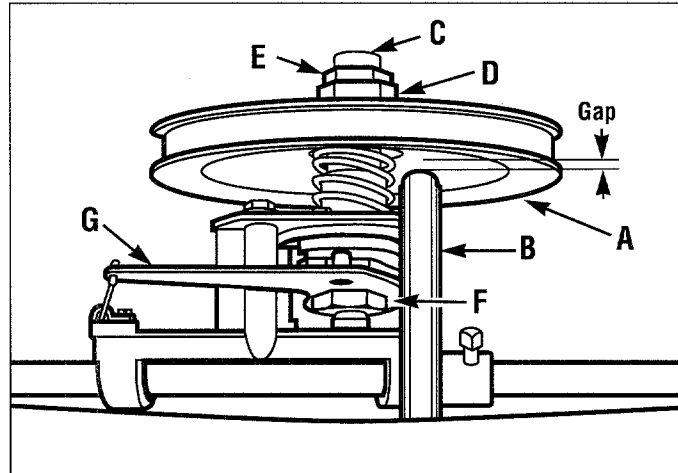
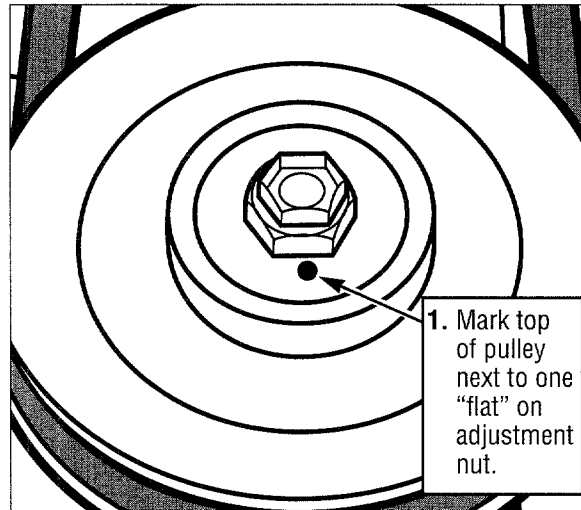

Figure 5-7: Pulley drive adjustment.
Figure 5-8: Adjustment nut has six "flats" (sides).
I. Gently pull the carrier arm (G, Figure 5-7) toward the front of the mower and release the arm.
L. Adjust the gap between the underside of the drive pulley (A, Figure 5-7) and the topmost edge of the rubber-rimmed drive disc (B) as follows:
- (1.) Remove the plastic thread protector (C, Figure 5-7).
- (2.) Hold the adjustment nut (D, Figure 5-7) with a 7/8" wrench and loosen the pal nut (E) 1 to 2 turns with a 3/4" wrench.
- (3.) Hold the sleeve nut (F) with a 7/8" wrench and slowly turn the adjustment nut (D) down (clockwise) 1/4 turn. From the right side (right side as viewed in Figure 5-7) try to insert the strip of paper between the drive pulley (A) and the topmost edge of the drive disc (B). If the paper will not fit (disc is touching pulley), go on to step 4.
- (4.) As shown in Figure 5-8, use chalk or a pencil to put a starting mark on the top of the pulley, directly opposite one of the six "flats" (sides) on the adjustment nut. Then, hold the sleeve nut (F, Figure 5-7) with a 7/8" wrench and